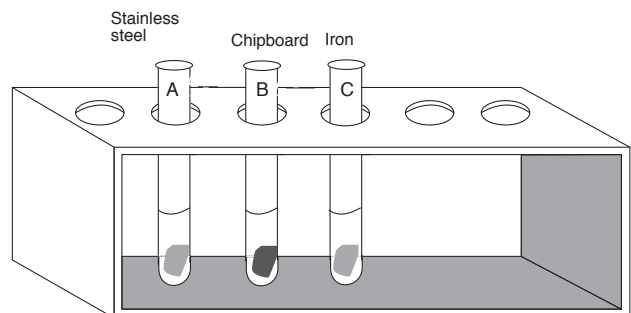

Figure 20.1 Experimental set up
1. Fill a series of bottles or test tubes with seawater like the ones shown in Figure 20.1
- bottles or test tubes as in Figure 20.1